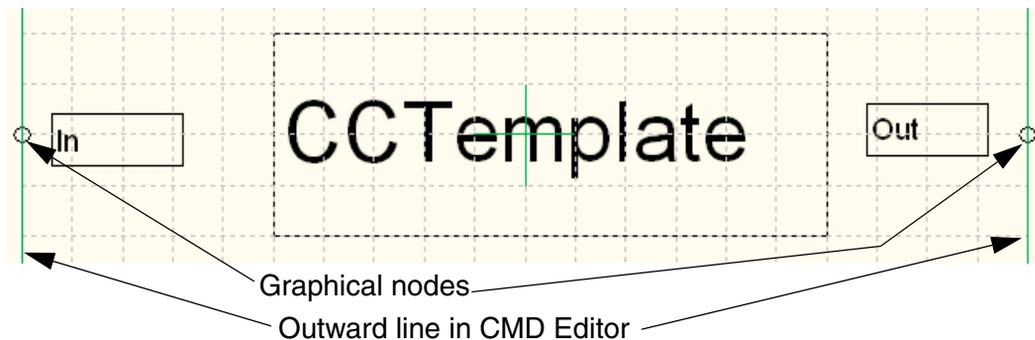
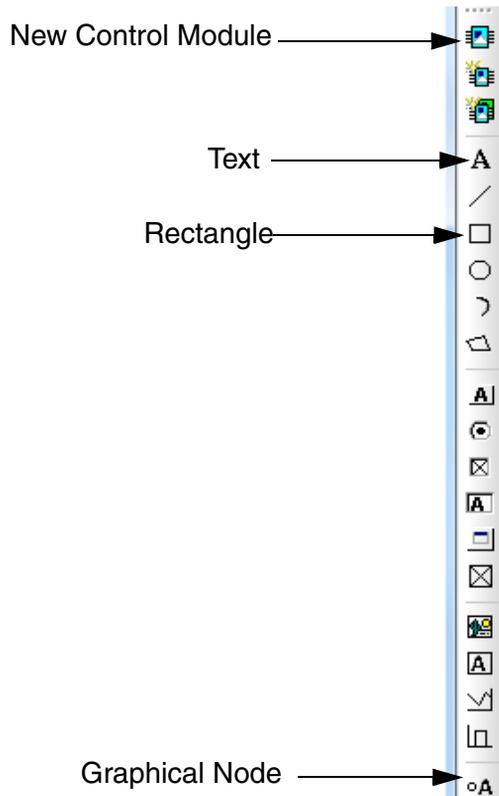

Figure 70. CCTemplate in the CMD Editor
Figure 71. Icon menu in the CMD Editor
After you are done with this subsection your CC Template will contain a name area, two connected graphical nodes in the CMD Editor (Figure 70).
2. Select icon for Rectangle (Figure 71) and mouse-click a rectangle over the outward line (see the outward line in Figure 70).
3. Select icon for Text (Figure 71) and write CCTemplate (Figure 70).
4. Select icon for Graphical Node (Figure 71) and add two nodes on both sides of your Text area (see exact location in Figure 70). Type in parameter **In** and **Out** in the rectangle.
5. Close the CMD Editor when done. The CMD Editor should look like Figure 70.
3. Open the CMD Editor in the Application and select the icon for New Control Module (see Figure 71).